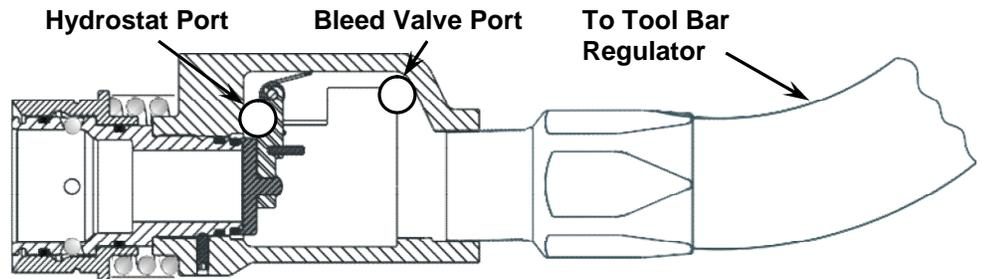

FIGURE 5
4. Connect the Female (Outlet) Half of the Flo-Max II Coupler to any NH₃ tool bar regulator with the proper hose length. Always place the wrench on the body portion of the coupler when connecting or disconnecting a hose. See FIGURE 5-SAFE INSTALLATION photo on page 5 for minimum parameters for hose length.